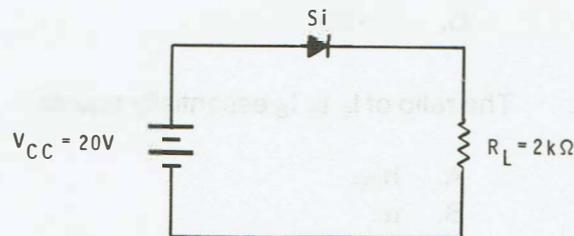

Figure 1-22
3. In Figure 1-22, the DC load line would have a vertical intercept of:
4. In Figure 1-22, the DC load line would have a horizontal intercept of:
5. In Figure 1-22 the DC load line has a slope of: